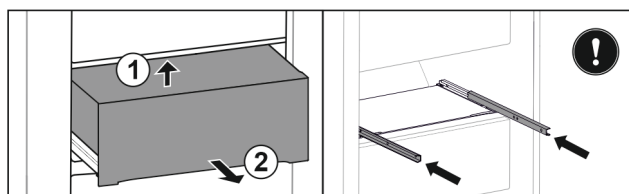

Fig. 38
- ▶ Nadvihnite ju zospodu dozadu Fig. 38 (1).
- ▶ Odoberte ju dopredu Fig. 38 (2).